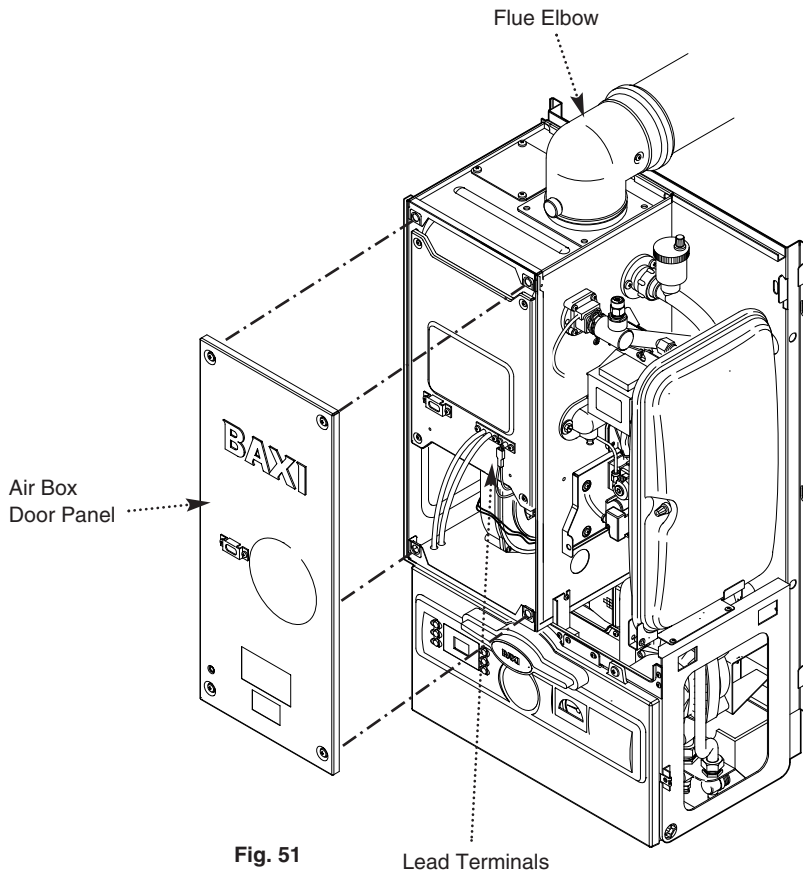

Fig. 51
6. Release the four 1/4 turn screws securing the air box door panel and remove the door (Fig. 51).
7. Disconnect the three lead terminals from the combustion box door taking note of their positions (Fig. 51).